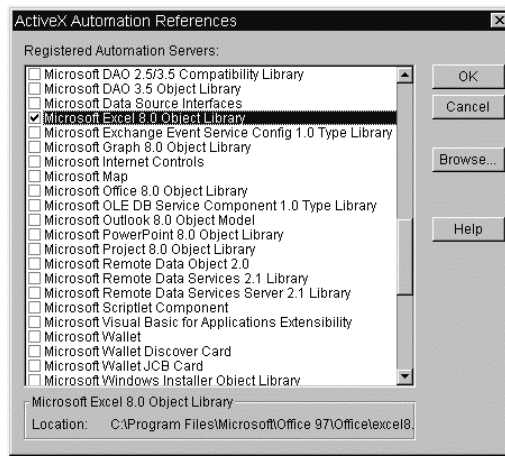

Figure 9.1. The ActiveX Automation References box
2. Select Menu Bar => Device => ActiveX Automation References.... Figure 9.1 will appear.